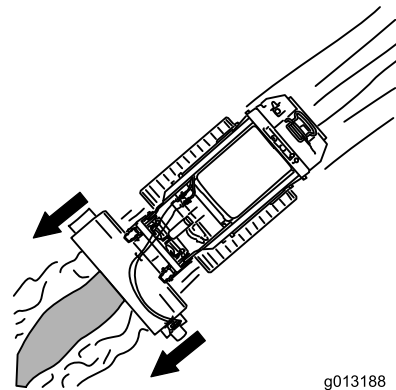

Figure 5
- For best trench filling, center the unit over the trench (Figure 5).